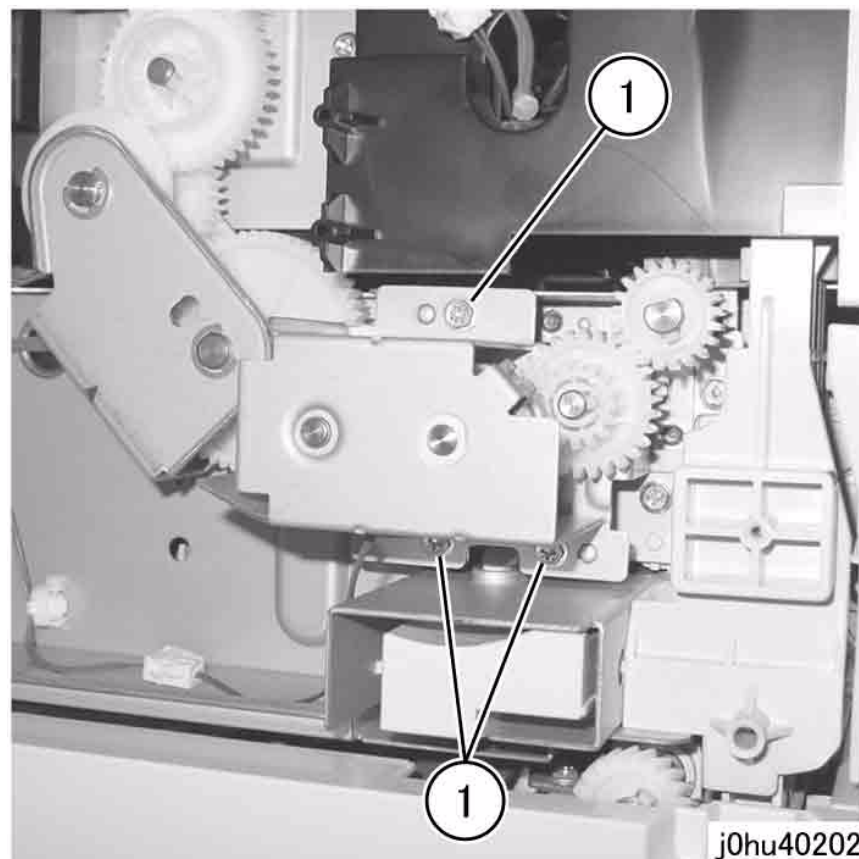

Figure 2 Remove Clutch Bracket Screws
3. Remove the screws (3) that secure the Clutch Bracket (Figure 2).